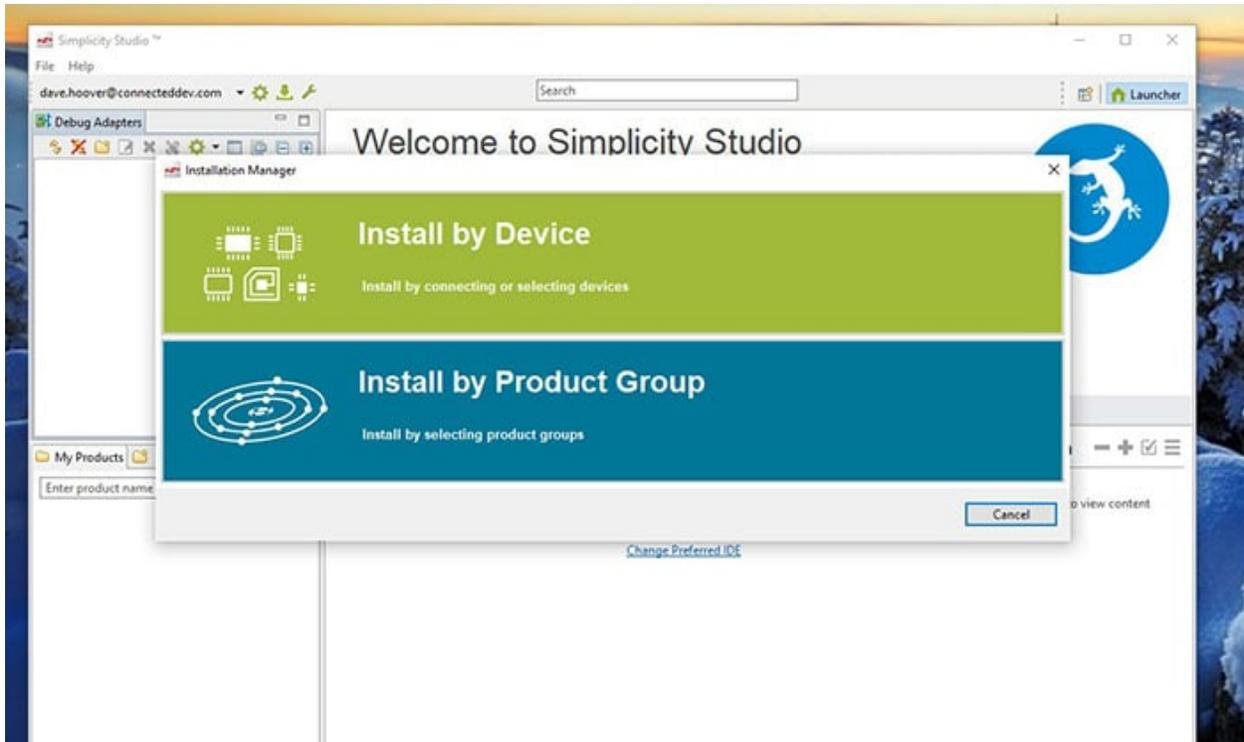

Figure 3: *Install by Device.* (Source: Simplicity Studio)
5. Select “Install by Device” when Simplicity Studio Installation Manager window pops up (Figure 3).
6. Plug your Silicon Labs starter kit into a USB port on your computer. (Note: The screenshot used in Figure 3 shows a Giant Gecko (instead of Tiny); however, the Tiny Gecko install will look similar.)